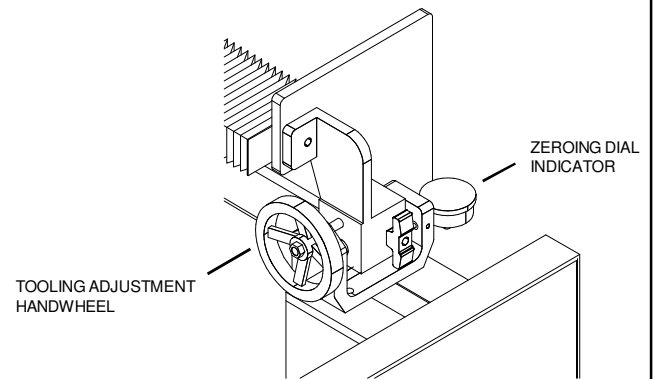

FIG. 5
R.H. TOOLING ALIGNMENT ADJUSTER (FIG 5)